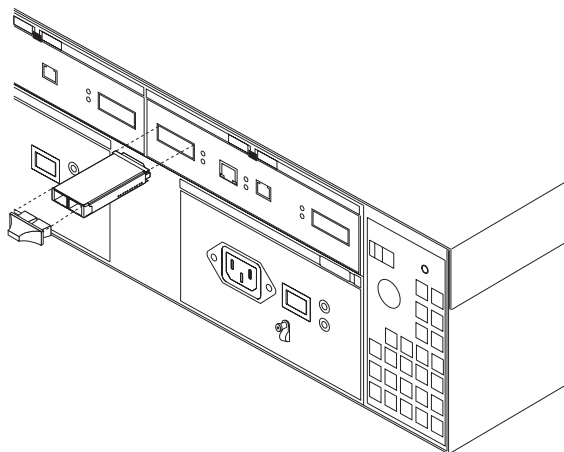

Figure 28. FASTt200 GBIC installation
1. Insert a GBIC into the port located on the back of a FASTt200 and remove the protective cap, as shown in Figure 28.